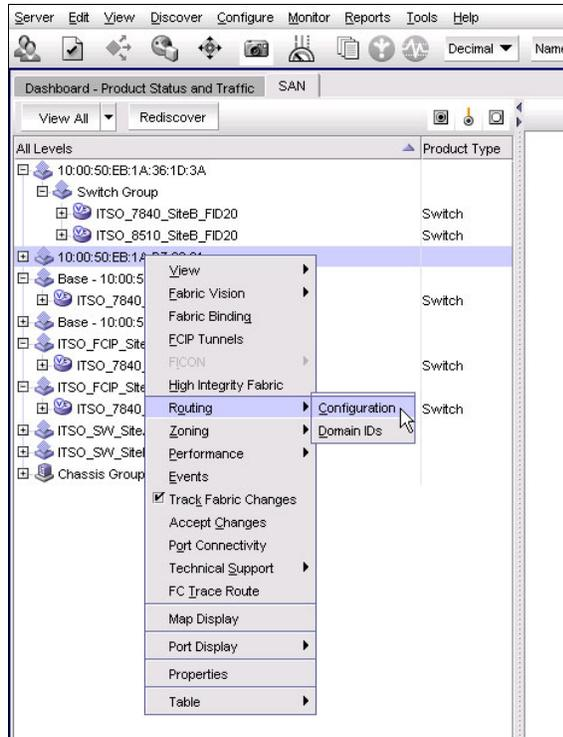

Figure 6-39 The routing configuration menu
1. To configure the EX port, select **Configure** → **Routing** → **Configuration** from the main menu (Figure 6-39).